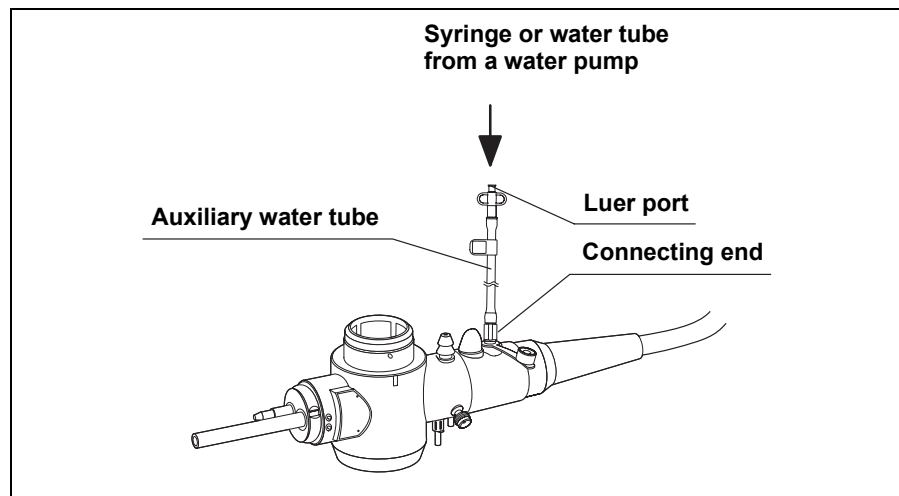

Figure 3.20
1. Attach a syringe containing sterile water or the water tube from a water pump to the luer port of the auxiliary water tube (see Figure 3.20). Feed water and confirm that water is emitted from the auxiliary water channel at the distal end of the insertion tube.